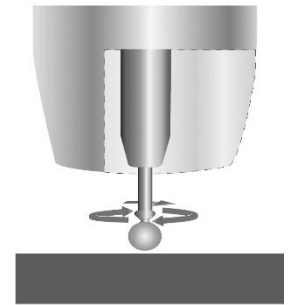

Fig. 15
3. The current flow creates a magnetic field that begins to pinch the melting wire forming it into droplet (Fig. 15).